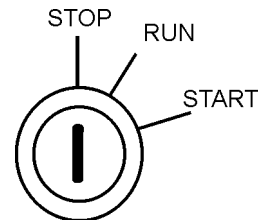

Figure 52. Ignition Switch (Stop Position)
4. Place the ignition switch (Figure 52) in the “**STOP**” position, remove the key and store in a safe place.